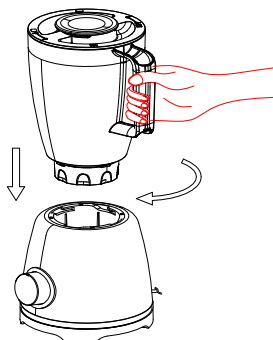

Fig 2
2. Place the Blender jug on the Main body and rotate it clockwise (Fig 2). See also chapter 'Safety locking system'.